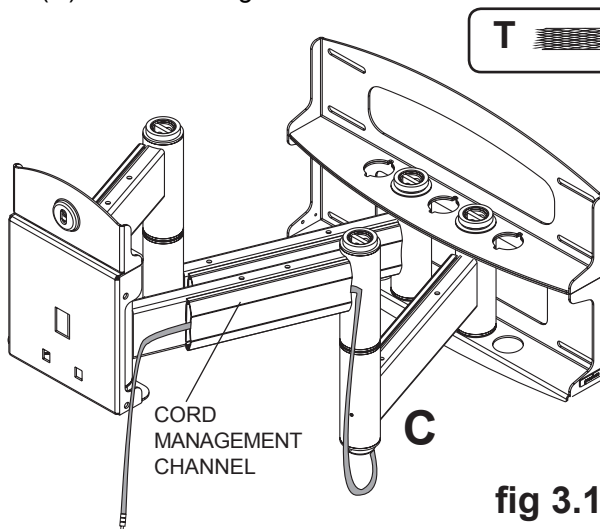

fig 3.1
3-1 Pull cords through cord management channels, leaving enough slack to allow full range of movement for swing arm assembly (C) as shown in figure 3.1.